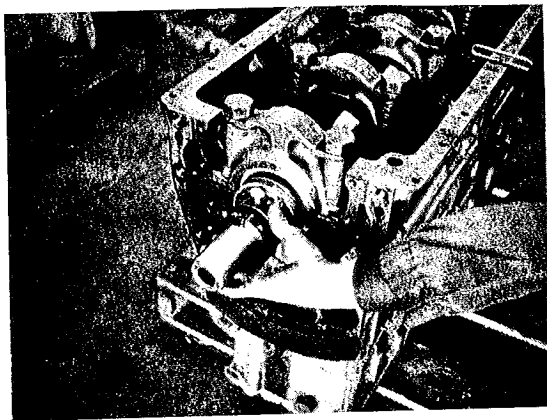

FIG. 3 INSTALLING FEED COLLAR
4. Install the Feed Collar on the boring bar on the opposite side of the thrust surface to be cut. See Fig. 3.